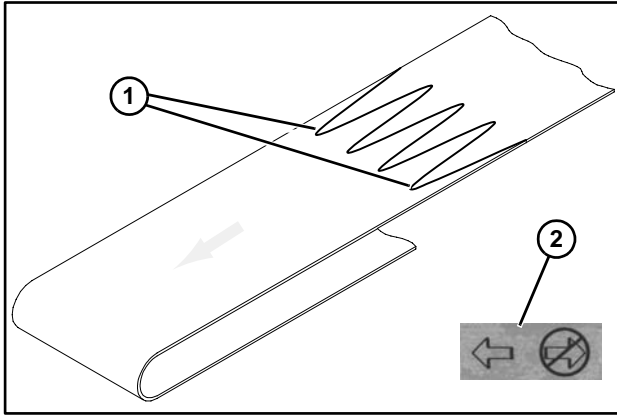

**Figure 25**
12. Remove belt (**Figure 25, item 1**) from conveyor.